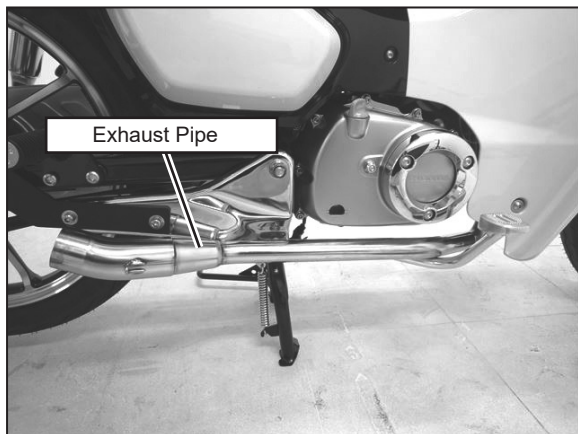

FIG. 5
5) Make sure to insert HONDA genuine exhaust gasket into exhaust port. Then, mount Exhaust Pipe on exhaust port with 2 stock nuts. Tighten nuts by hand only at this stage (See Fig. 5 & 6).